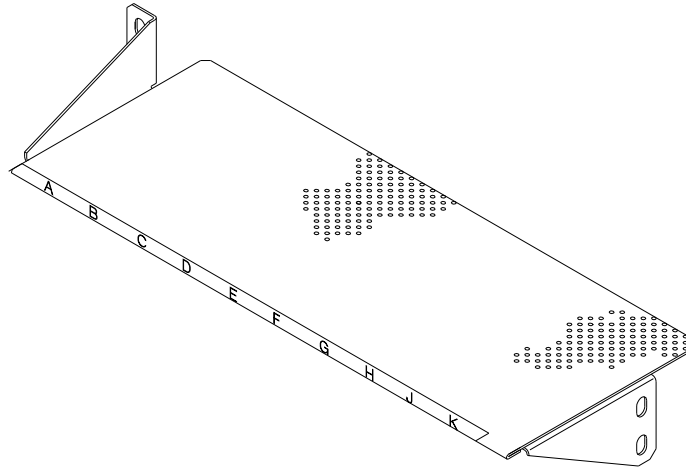

Figure 1-13. Safety Grid (P/N 03F4747)
- Step 3. ____ A safety grid P/N 03F4747 (see Figure 1-13) is supplied in the shipping group for 3745 Model 150, 170, or 17A with LIB2 board(s).